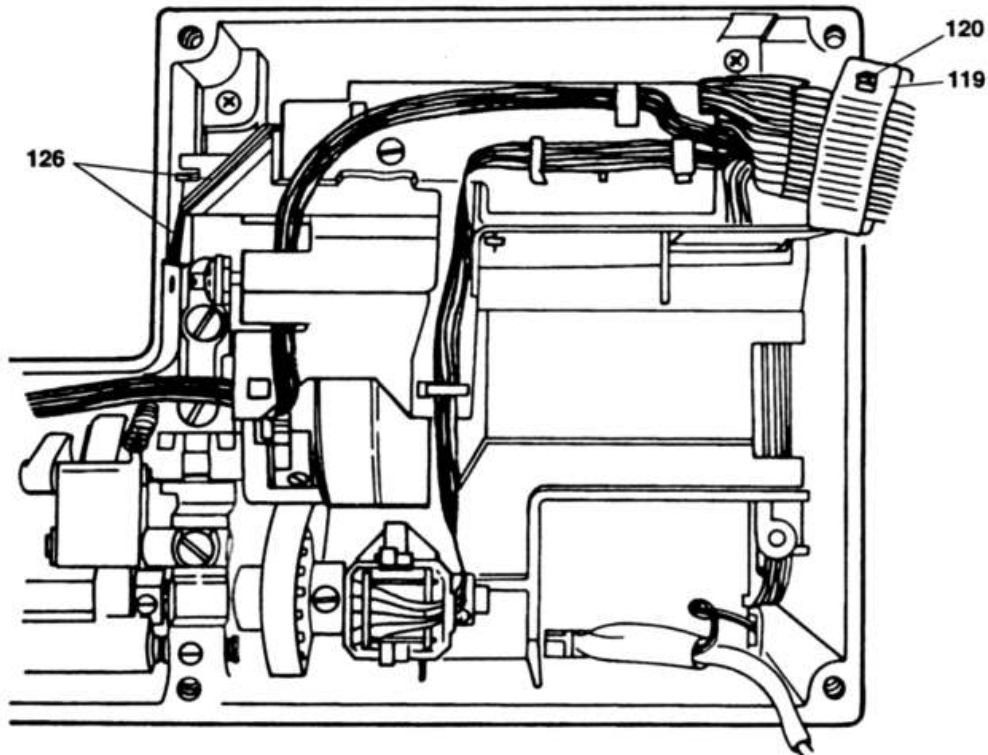

Fig. 29
- Install all cables according to fig. 29 and fit the cable clips 120.